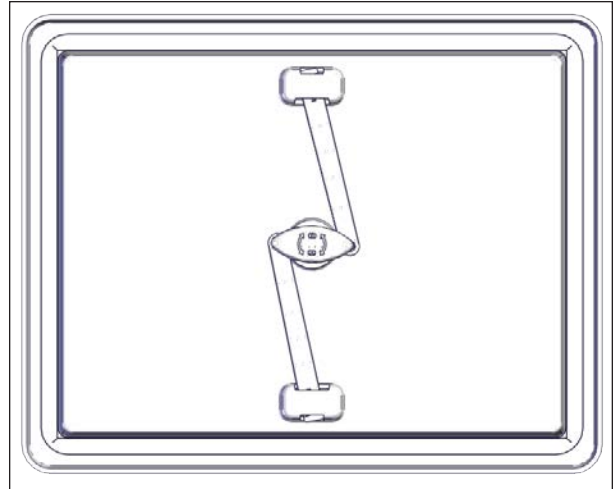

FIGURE 101: INTERIOR HANDLE
1. Turn the red handle by a quarter turn in either direction to retract the arms, see Figure 101.